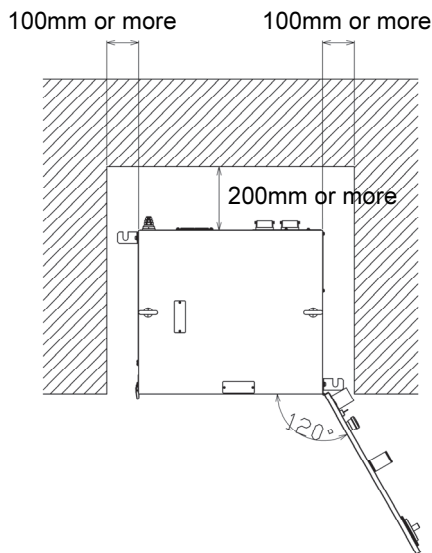

Fig. 2.4.4 Installation of robot controller
(2) A robot controller has a through-hole for an external connection cable and cooling fan ventilator on its front side and back side. To install a robot controller, secure a space of at least 200 mm at back space and at least 100 mm at side space by referring to Fig. 2.4.4.